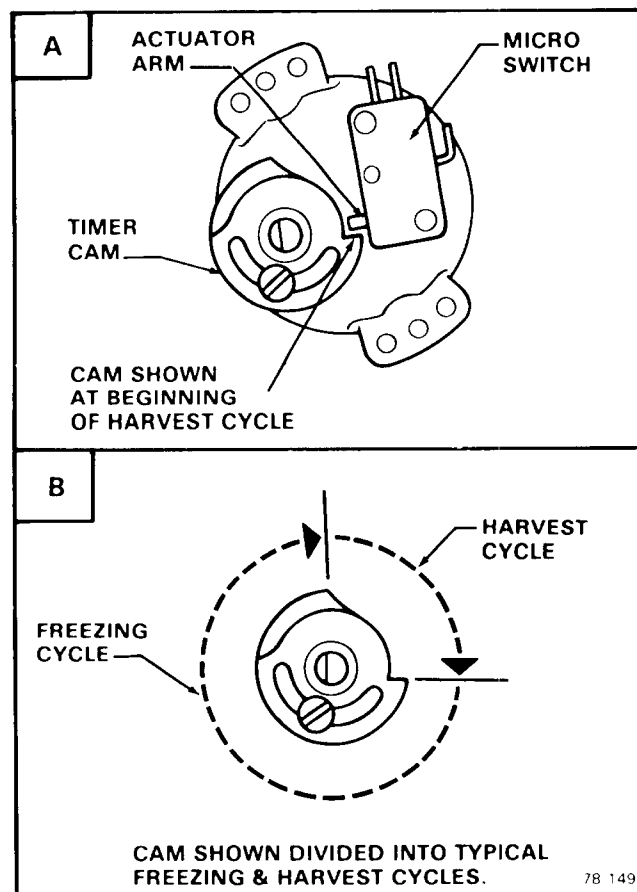

Figure 2-1. Timer Cam Positions.
*Slowly rotate the shaft **CLOCKWISE**, until the actuator arm on the microswitch drops off the outer cam into the cam slot. An audible click can be heard, but in a noisy area, look at the cam and switch to observe the event. See A, Figure 2-1.*